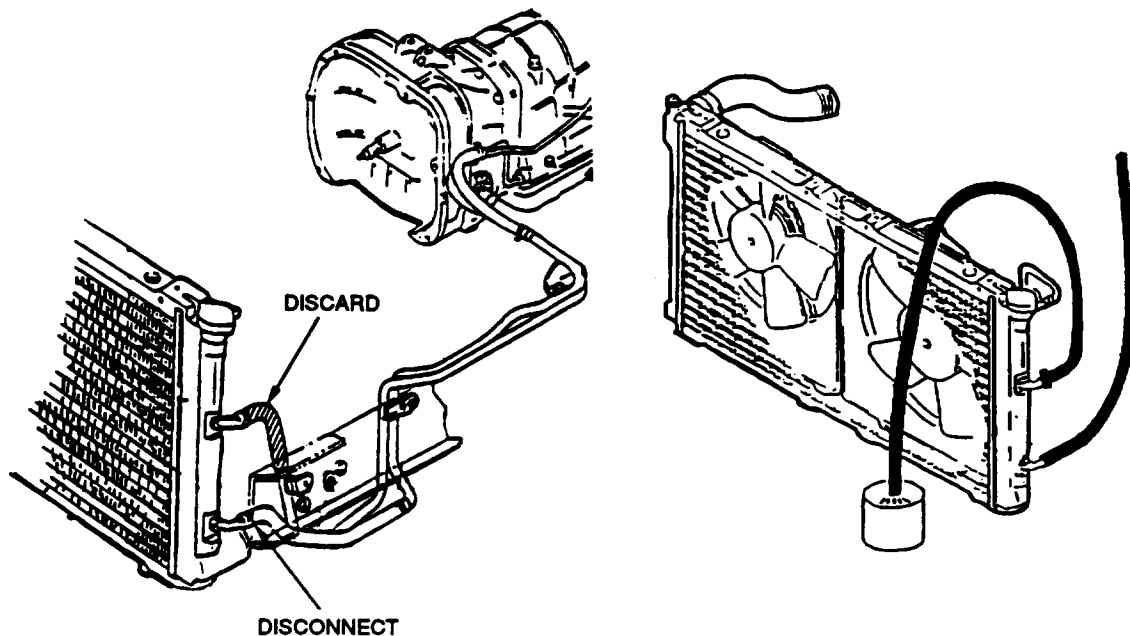

Figure 1
- o Remove and discard the cooler upper hose (inlet). See Figure 1.
- o Temporarily disconnect the cooler lower hose (outlet) for flushing. See Figure 1. Do not discard this hose and clamp.
- o Using the two (2) hoses supplied in the ATF Filter Kit, install and secure one hose and clamp to the upper cooler inlet nipple. Temporarily connect the remaining hose from the kit to the lower cooler outlet nipple. See Figure 1.
- o The hose from the upper cooler inlet should be aimed down to a catch pan. See Figure 1.
- o Reinstall the original hose that connects the transmission inlet pipe to the lower radiator cooler outlet nipple. See Figure 1.